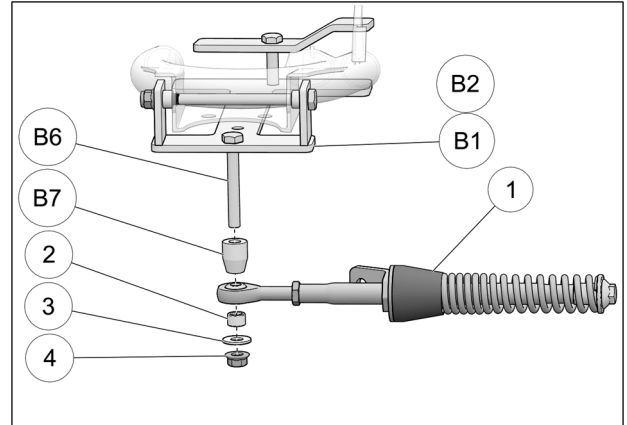

Fig. 12
10. Attach stabilizing rod (1) to anchor bracket (B1-B2), using bolt (B6), long spacer bushing (B7), short spacer bushing (2), washer (3), and nut (4). Torque to  $70 \text{ N}\cdot\text{m}$  [ $52 \text{ lb}\cdot\text{ft}$ ]. See Fig. 12